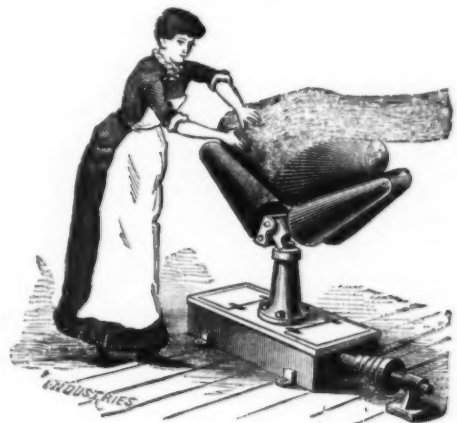

FIG. 1.
**CARDING AND FORMING.**—The carder used in this business is, in all respects, identical with that employed in the cotton trade. Indeed, the ordinary cotton carding engine answers the purpose perfectly, and it is extensively used by hat manufacturers. As the wool leaves the machine in the orthodox tissue form it is received by women, who carry on this part of the work, and is spread evenly over the double cone shown in our illustration (Fig. 1). By this method two hat bodies